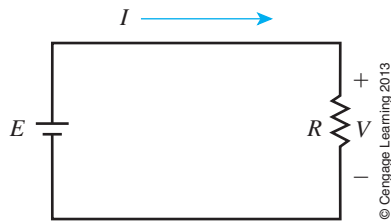

FIGURE 4-32
1. For the circuit of Figure 4-32, determine the current I for each of the following. Express your answer in the most appropriate unit: amps, milliamps, microamps, and so on.
3. For the circuit of Figure 4-32, compute V for each of the following:
9. For Figure 4-32, if $E = 30\text{ V}$ and the conductance of the resistor is 0.2 S , what is I ? Hint: See Section 3.11, Chapter 3.
19. Figure 4-34 represents the I - V graph for the circuit of Figure 4-32. What is R ?